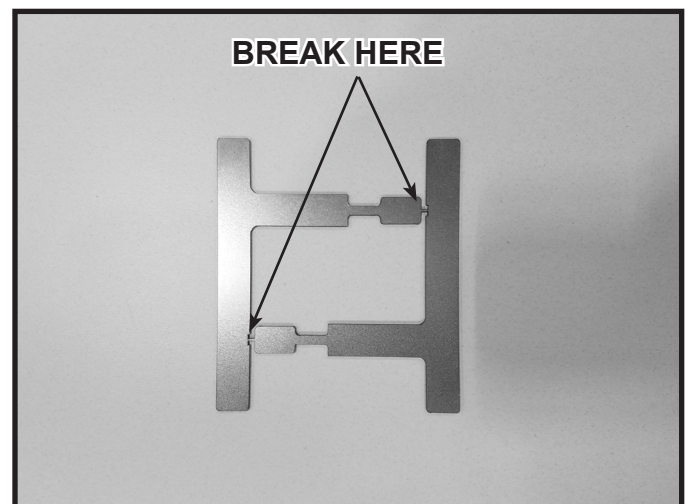
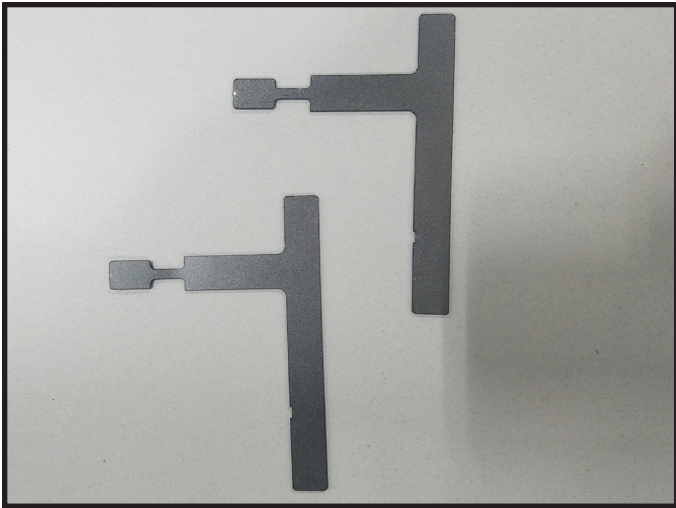

Figure 11 Bend and Break Pull Tools Apart
Figure 12 Pull Tools Separated
5. Bend pull tools and break apart as shown in Figure 11 and Figure 12.